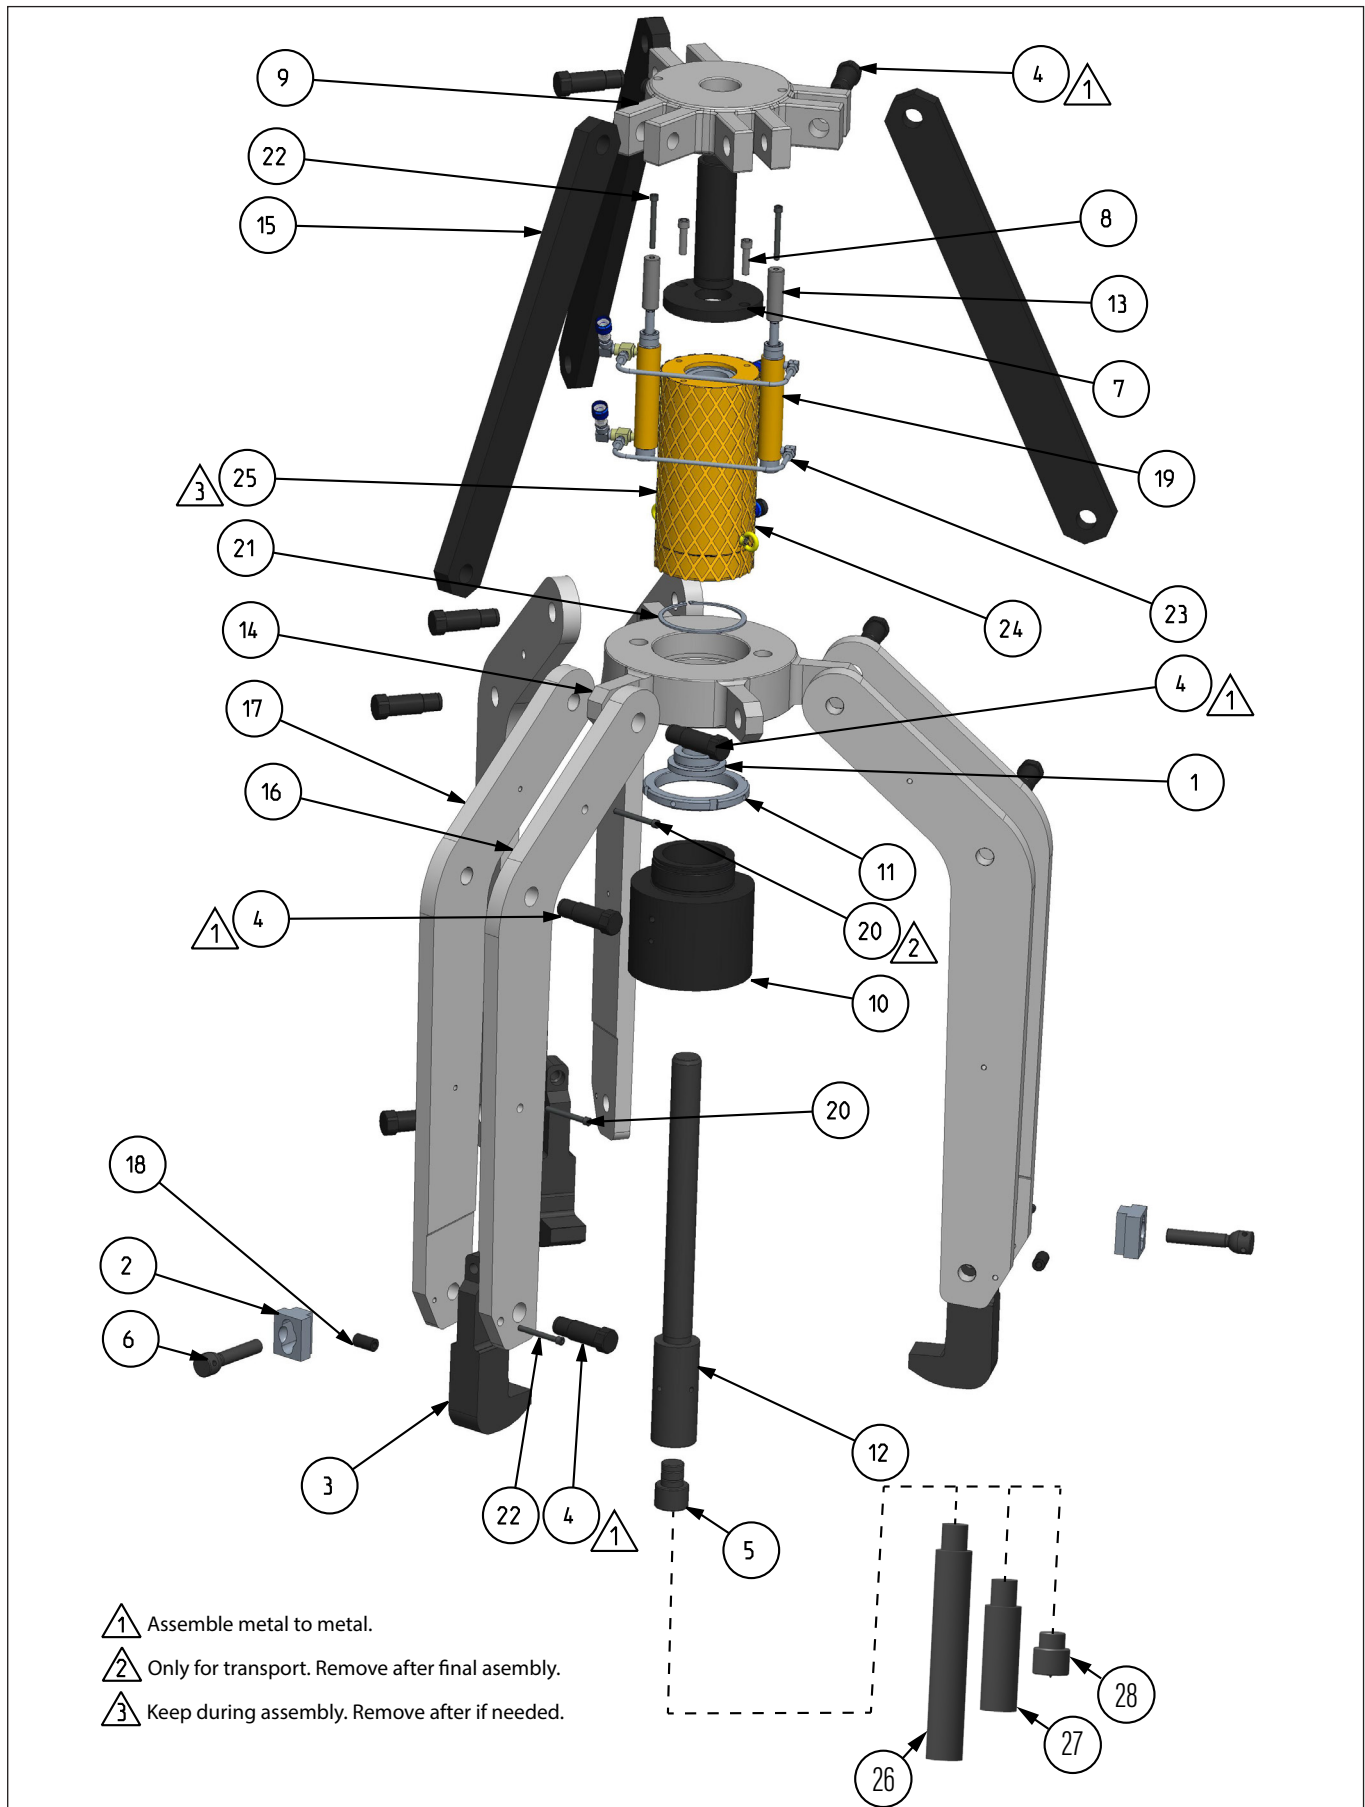

Figure 20: Exploded View - Hydraulic Puller
9.2.1 Hydraulic Puller LGH3100 Table of Parts (Figure 20)